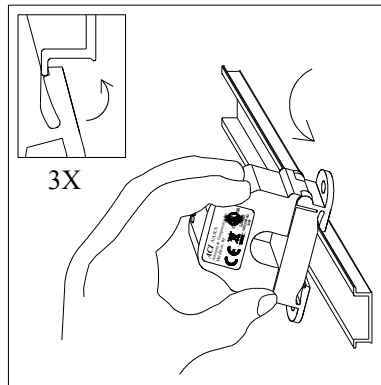

Figure 1: Sensor Placed on Rail
The A/ASCS Series Current Switches should be used on **Insulated Conductors Only!** The current switch may be mounted in any position using the (2) #8 x 3/4" Tek screws and the mounting holes in the base or snapped directly on to the 35mm DIN rail (See **Figures 1 & 2 below**). Leave a minimum distance of 1" (3 cm) between the current switch and any other magnetic devices such as contactors and transformers.